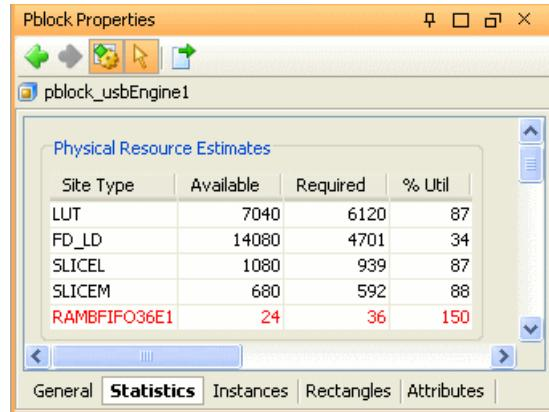

Figure 10-16: Pblock Properties View: Statistics Tab
2. Click the **Statistics** tab, shown in Figure 10-16, page 340.
- **% Util** — Displays the estimated utilization percentage for each logic type. The appropriate utilization can be met by resizing the Pblock. If utilization for logic objects is over 100%, the text appears in red, as shown in Figure 10-16.